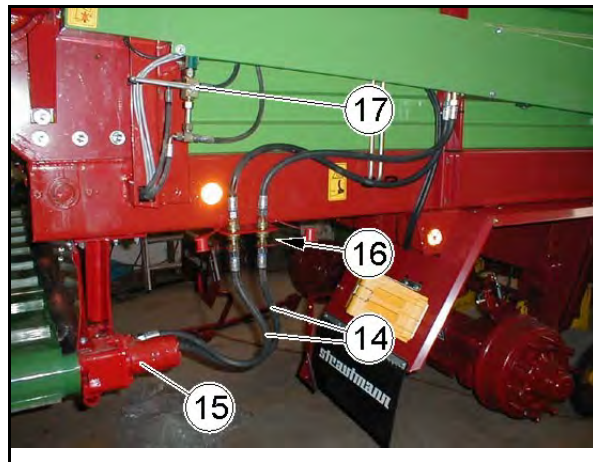

Fig. 96
4. Disconnect the hydraulic hose pipes (14) coming from the hydraulic motor (15) at the coupling devices (16) provided for that purpose. (Fig. 96)
- 8.5 Press the lamp bracket (1) down again.
9. Loosen the stop-cock (Fig. 96/17) such that the tailgate can be moved again.